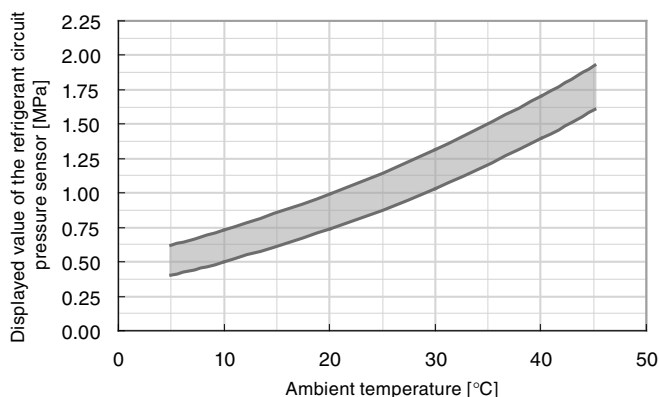

Fig. 4-53 Ambient temperature and refrigerant circuit pressure
- (1) Leave the Thermo-Chiller not operating for 24 hours to make the ambient temperature and the temperature inside the Thermo-Chiller the same.
- (2) Check the ambient temperature.
- (3) Check “PL: Refrigerant circuit pressure on the low pressure side” value in the “Check Monitor Menu”.
- (4) Check if the value at the cross point of the ambient temperature and the “PL: Refrigerant circuit pressure on the low pressure side” value is within the range (the shaded part) in Fig. 4-53. If the cross point is within the range, it means that the pressure sensor is operating correctly.